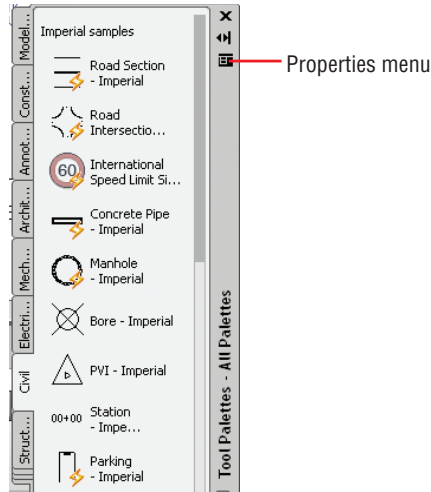

FIGURE 9.20 Click the Tool Palettes button.
2. Select the ribbon's View tab, and click the Tool Palettes button on the Palettes panel (see Figure 9.20).